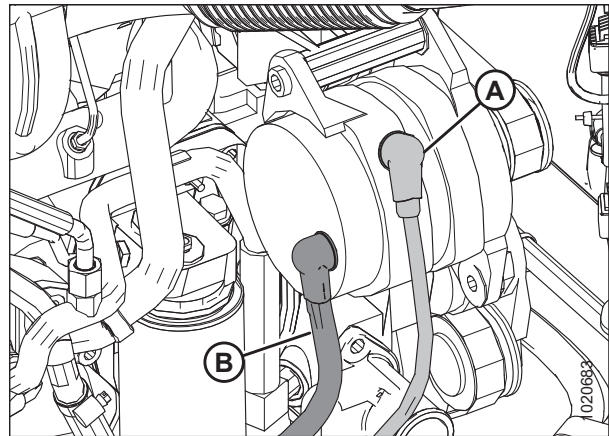

Figure 5.32: Alternator
- Do **NOT** short across battery or alternator terminals or allow battery positive (+) cable (B) or alternator wire to become grounded.
- If wires are disconnected from the alternator, refer to Figure 5.32, page 276 to ensure proper connection.